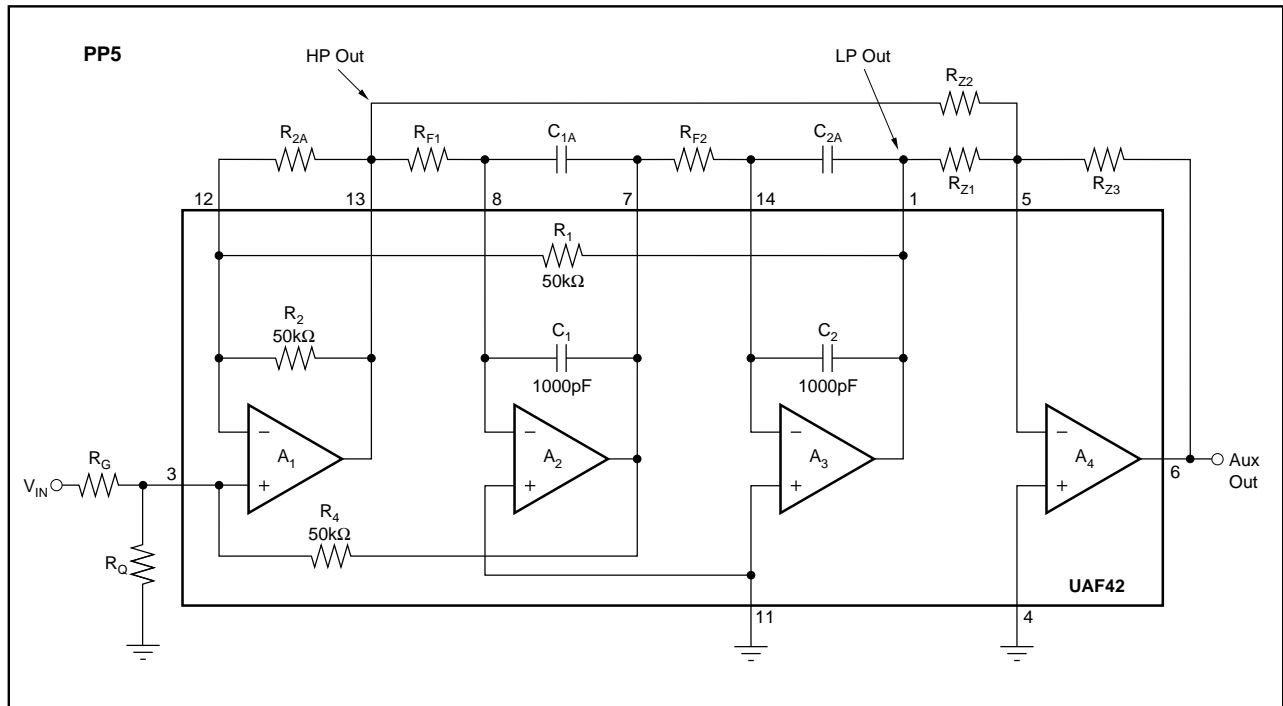

FIGURE 11. PP5 Noninverting Pole-Pair/Zero Subcircuit Using External Gain-Set Resistor  $R_G$ .
**PP5** (Noninverting pole-pair/zero subcircuit)—See Figure 11. In addition to a complex pole-pair, this configuration produces a  $j\omega$ -axis zero (response null) by summing the low-pass and high-pass outputs using the auxiliary op amp,  $A_4$ , in the UAF42. In the automatic topology selection mode, this configuration is used for all band-reject (notch) filter responses and Inverse Chebyshev filter types when  $Q < 0.57$ . This subcircuit option requires an external gain-set resistor,  $R_G$ .